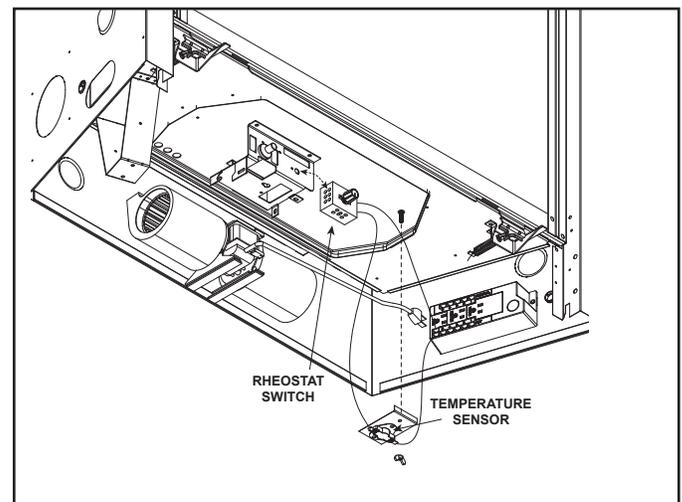

Figure 8.7 Fan Wiring with Rheostat
If the fan will not be installed for operation with a wall switch, the temperature sensor will need to be installed. See Figure 8.7 for location of the temperature sensor and fan control.
- Install rheostat in location as seen in Figure 8.7.